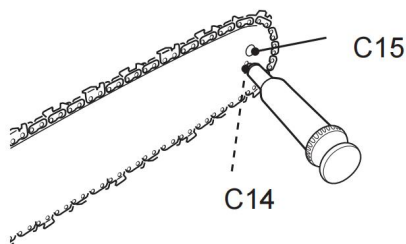

Fig. 69
2. Using a disposable lube gun, insert the needle nose into the lubrication hole (C14) and inject grease until it appears at the outside edge of the sprocket wheel (Fig. 69).